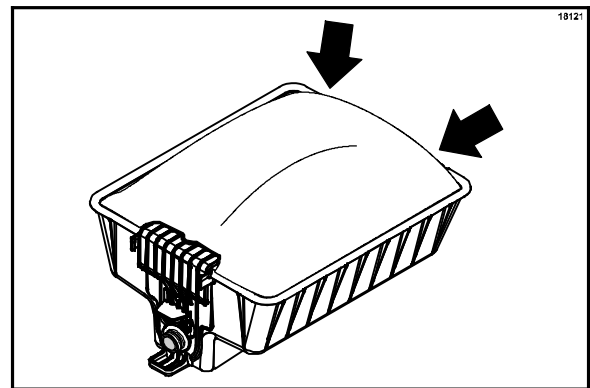

Figure 30
- Arrange the product bag so it is flat and spread out in the bin. Attach the rear of the bag over the two bin hooks. (See Figure 30.)